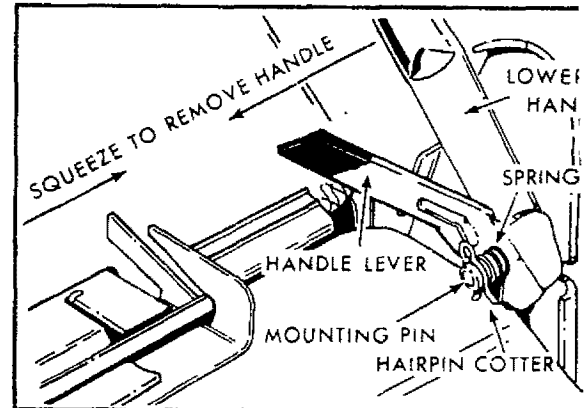

FIG. 3
- c. Remove the hairpin cotters (See Fig. 3).
- e. Put handle back on mounting pins (See Fig. 3).
- f. Put springs and hairpin cotters back in mounting pins (See Fig. 3).
5. To fold handle for storage, squeeze the handle levers until lower handle clears handle brackets, then move handle forward (See Fig. 3).